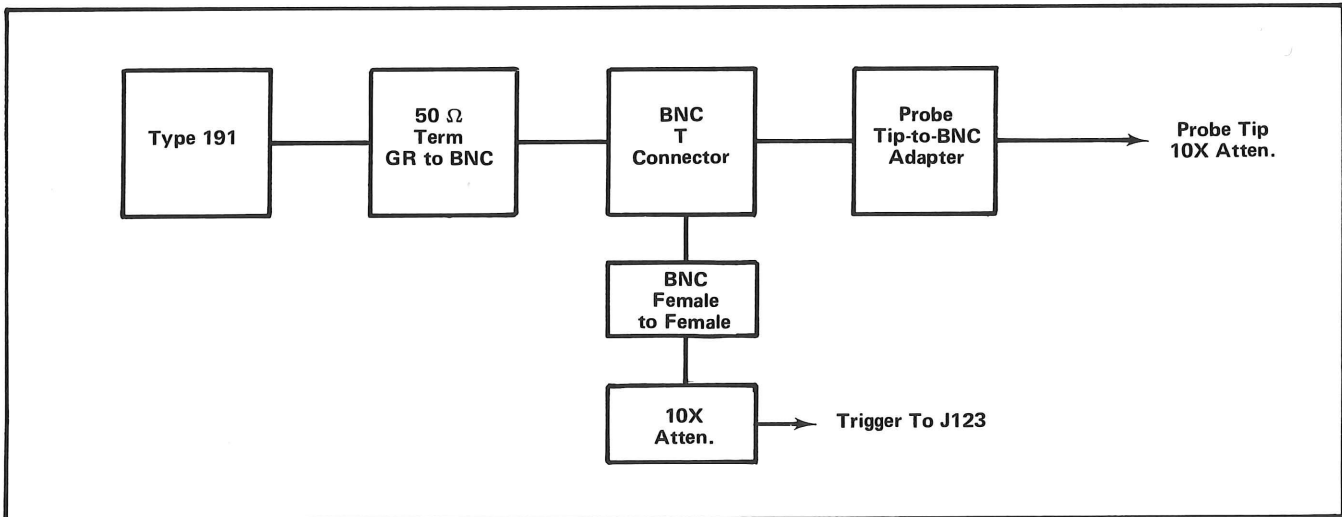

Fig. 7. Block diagram of equipment connections to adjust Chopper Drive control R13.
- a. Connect the equipment as shown in Fig. 7, or as follows: